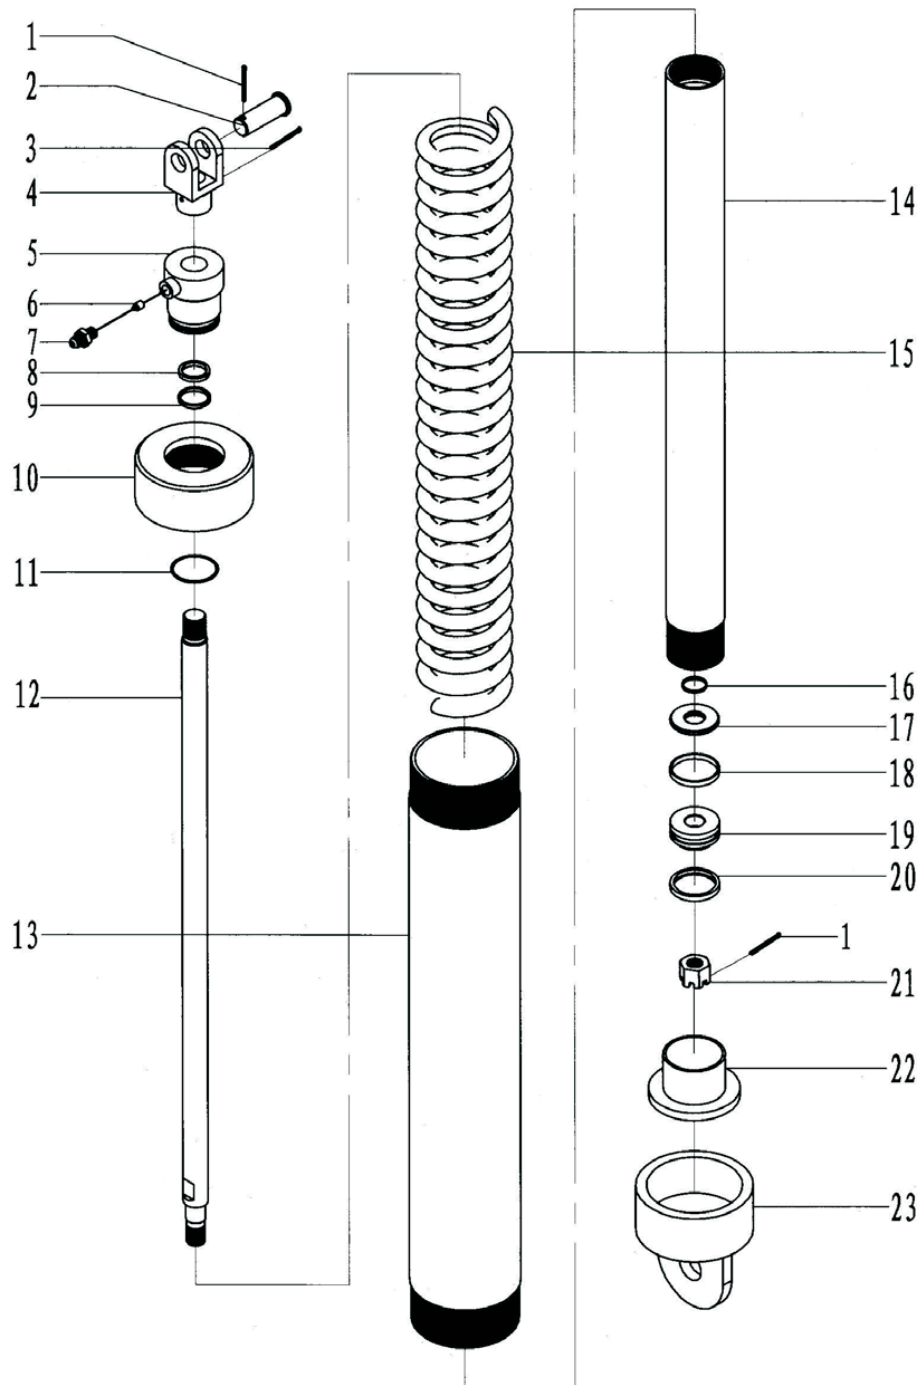

Fig.19
7.16-2 Assembly of hydraulic lifter (Fig 19, Table 19)